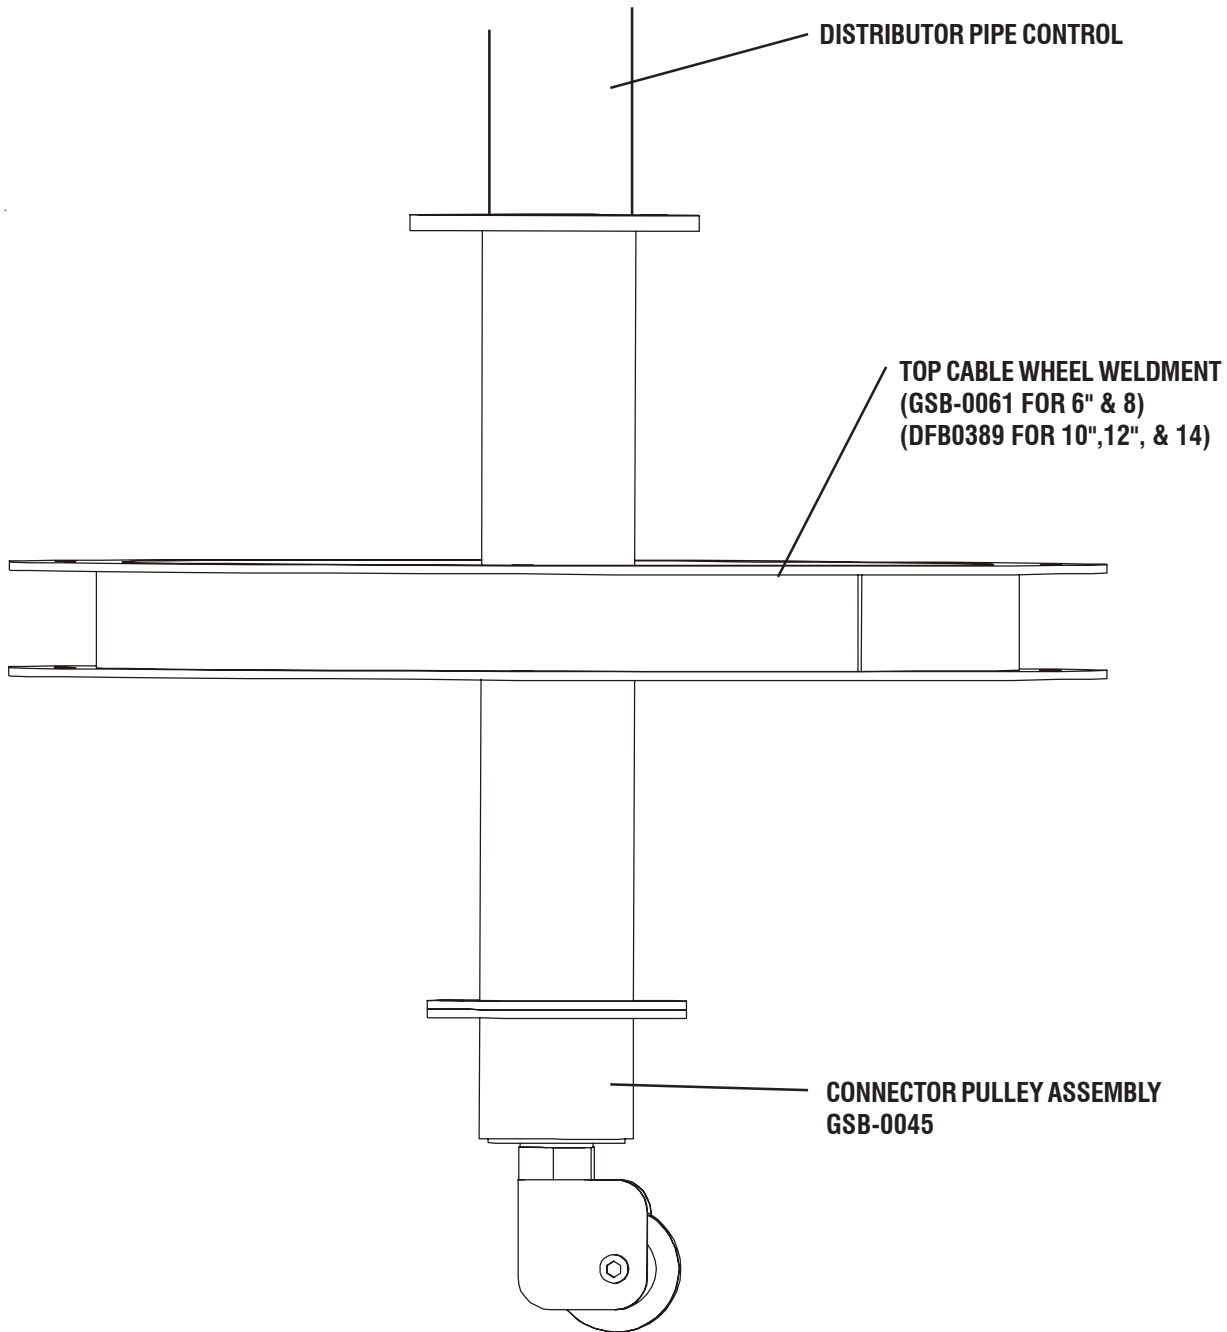

Figure 2
The next piece to install is the connector-pulley assembly (GSB-0045). This piece mounts to the Top Cable Wheel Weldment as shown in Figure 2 below. These are fastened together using (2) 5/16" x 1" bolts and whiz nuts, supplied in the hardware package (FC-DCG-HDW).